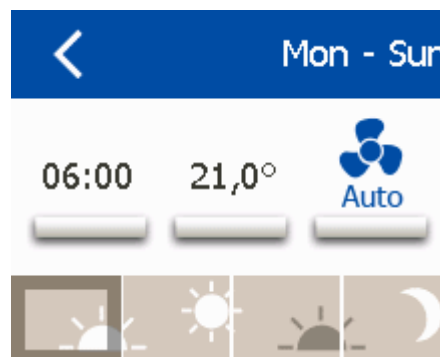

Fig. 90: Same programme every day
1. ▶ On the screen in Fig. 90 click on the symbol for a time of the day (morning, afternoon, evening, night).